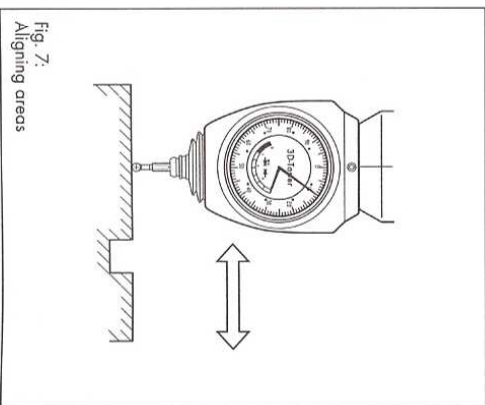

Fig. 7: Aligning areas
### 6 Aligning areas (fig. 7)
- Slide along the surface with the sensing ball (Fig. 7). The deflection at the dial gauge shows how strongly the parallelity of the surface to the machine axis deviates.